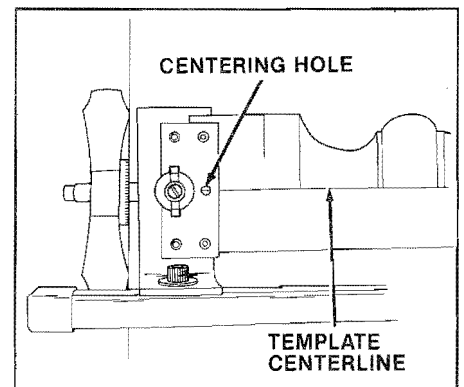

Figure 8. Align the template
**2. Mount the template.** Loosen the mounting screw (11) of the left-hand template support assembly. Insert the template between clamp (5) and bracket (9) of the right-hand template support assembly, then move the left-hand template support assembly to accept the other end of the template. Both ends of the template should butt up squarely against the spacers (6). Use the 5/16" Allen wrench to tighten the left-hand screw (11), keeping the top of the support bracket (9) parallel to the channel.
**3. Align the template.** Align the template holes with the centering hole in each template clamp (5). (See Figure 8.) To align the template easily and exactly, insert a 1/4" dowel through the centering hole in each clamp (5) to engage the template hole. Use the 5/32" Allen wrench to tighten the two rear setscrews (4), one in each template clamp.